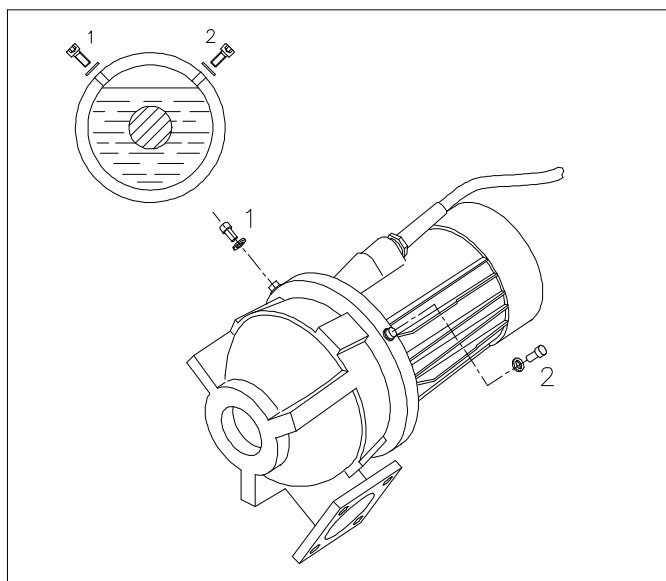

Fig. 7.2
Put the pump in a horizontal position so that the 2 hexagonal socket screws are on top (see fig.7.2). Unscrew the level plug (1) and the vent plug (2).